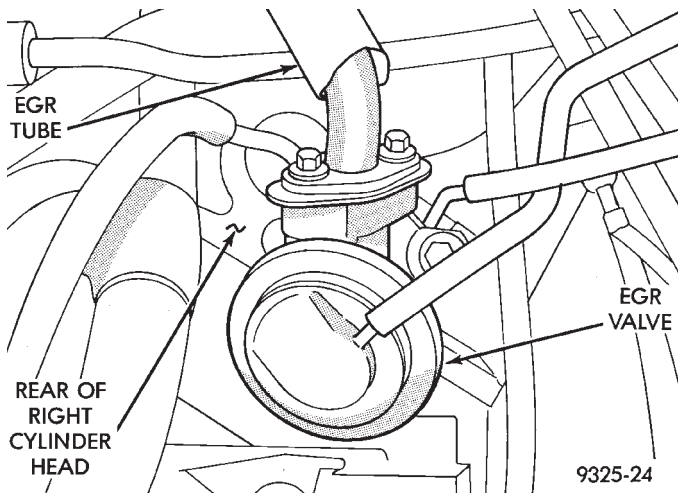

Fig. 15 EGR Valve—3.5L Engine
The EGR valve attaches to the rear of the right cylinder head (Fig. 15).
- (5) Remove EGR tube lower screws at EGR valve (Fig. 15).
- (6) Remove EGR valve mounting screws.
- (7) Remove EGR valve and transducer.
- (8) Clean gasket surfaces. Discard old gasket. If necessary, clean EGR passages.
(1) Remove air cleaner plenum from rear of engine.
(2) Remove EGR tube to EGR valve screws (Fig. 15).